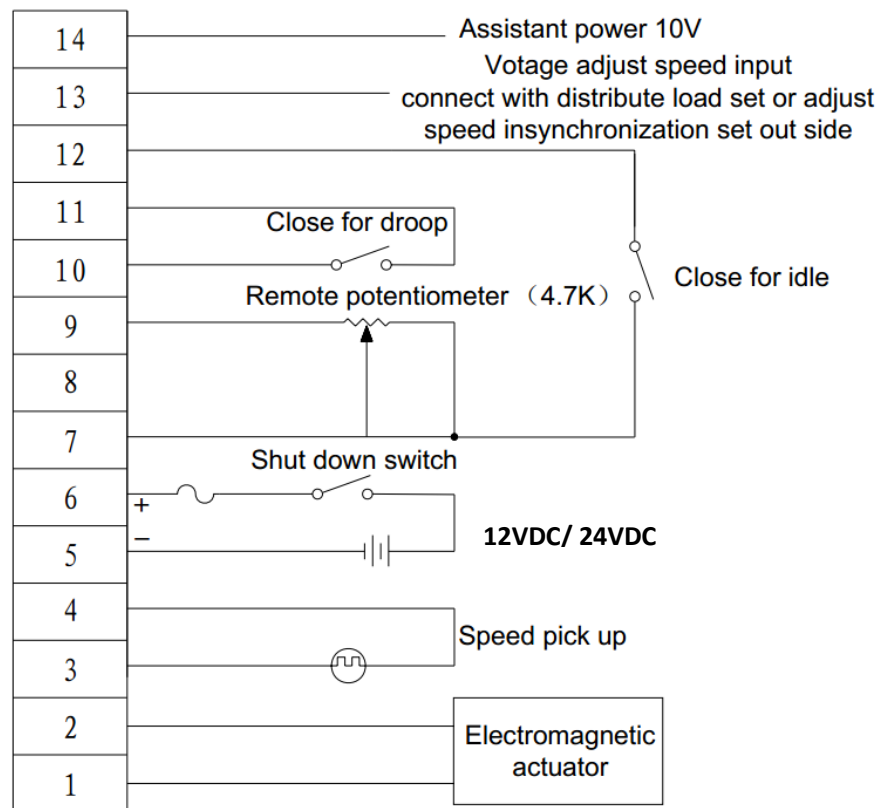

Figure 2.1.3 Connection diagram of the C2002 speed control unit for normal generator set
2.1.3 Connection diagram of the C2002 speed control unit (figure 2.1.3) .